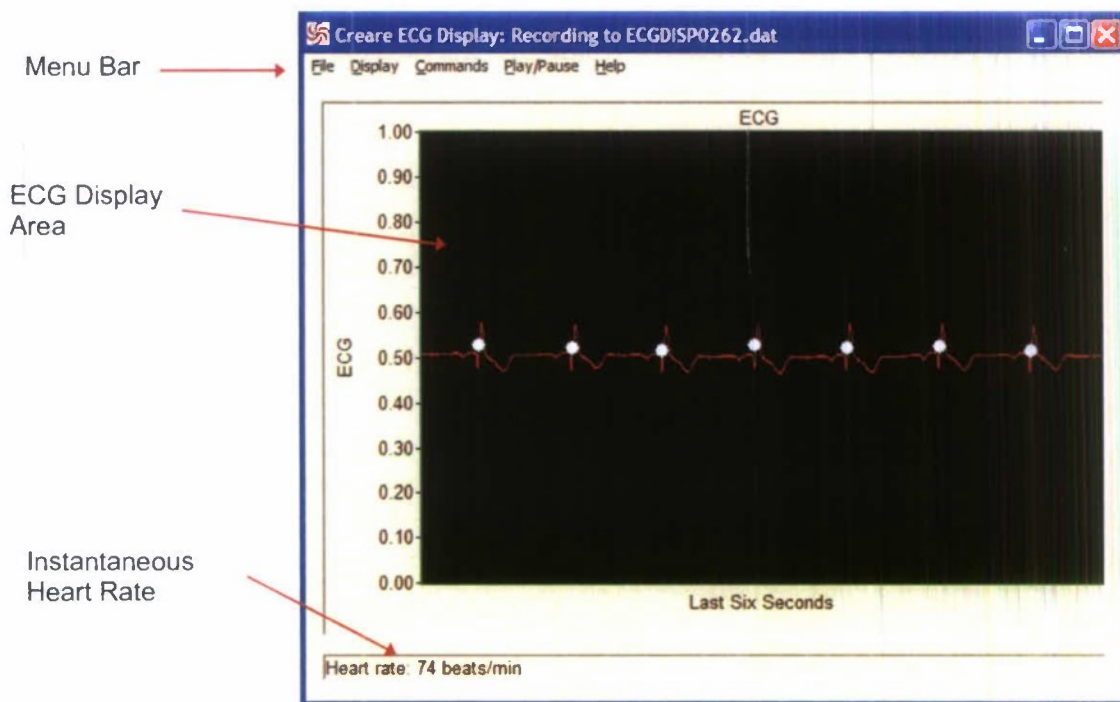

Figure 5. Graphical User Interface for the Creare DHMS PC Software
| Figure 5. | Graphical User Interface for the Creare DHMS PC Software..... | 8 |
The graphical user interface of the Creare DHMS software is shown in Figure 5. As can be seen, there is a menu bar at the top, a large area for displaying the ECG data streamed wirelessly from the sensor, and a text display at the bottom for showing the current heart rate transmitted by the sensor.
5. Confirm Scrolling Data on Screen. When the PC wirelessly receives data from the DHMS sensor, it will display the data within the large ECG display area in the application's window (as shown earlier in Figure 5). At the bottom of the window, the heart rate will be printed.